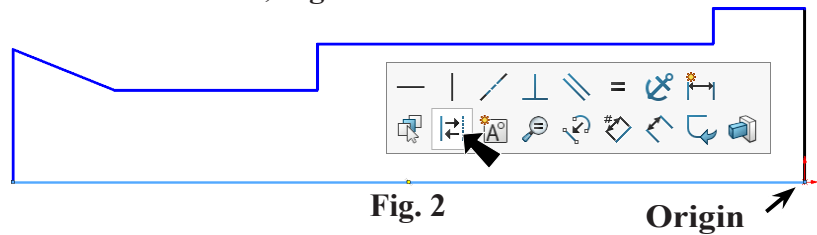

Fig. 2
Step 3. Click **Line**  (L) on the Sketch toolbar.
Step 4. Sketch **9 lines starting with a vertical line up from the Origin** , continue sketch the chain of lines and after sketching the **bottom horizontal line last endpoint** - click **Construction Geometry**  on the context toolbar, **Fig. 2**.
Step 5. Click **Smart Dimension**  (S) on the Sketch toolbar.